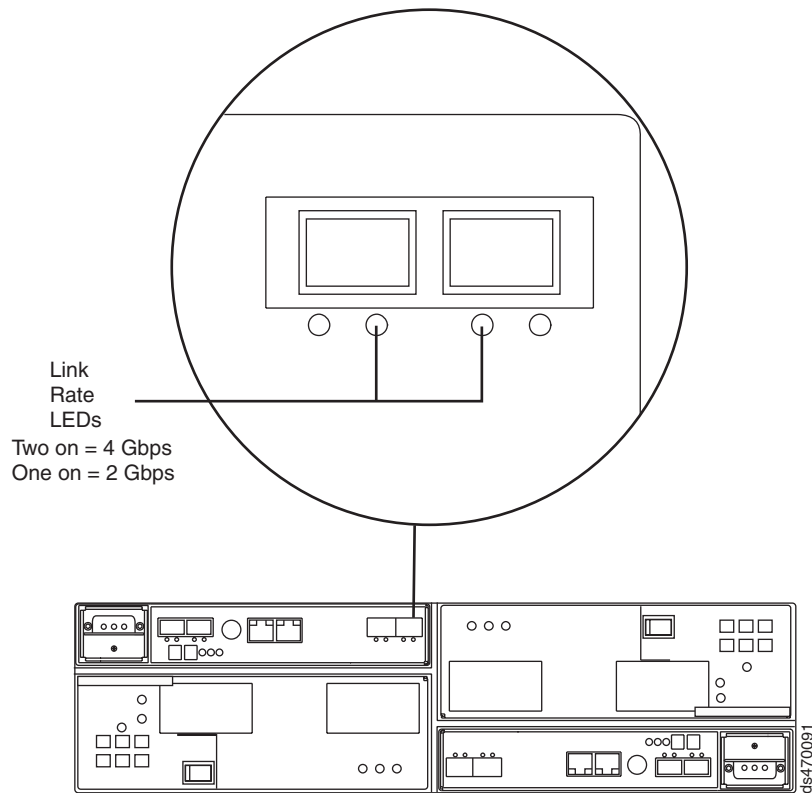

Figure 112. Link rate LEDs
2. Locate the Link Rate indicator LEDs. Figure 112 on page 163 shows the location of the Link Rate indicator lights on the back of the storage subsystem.